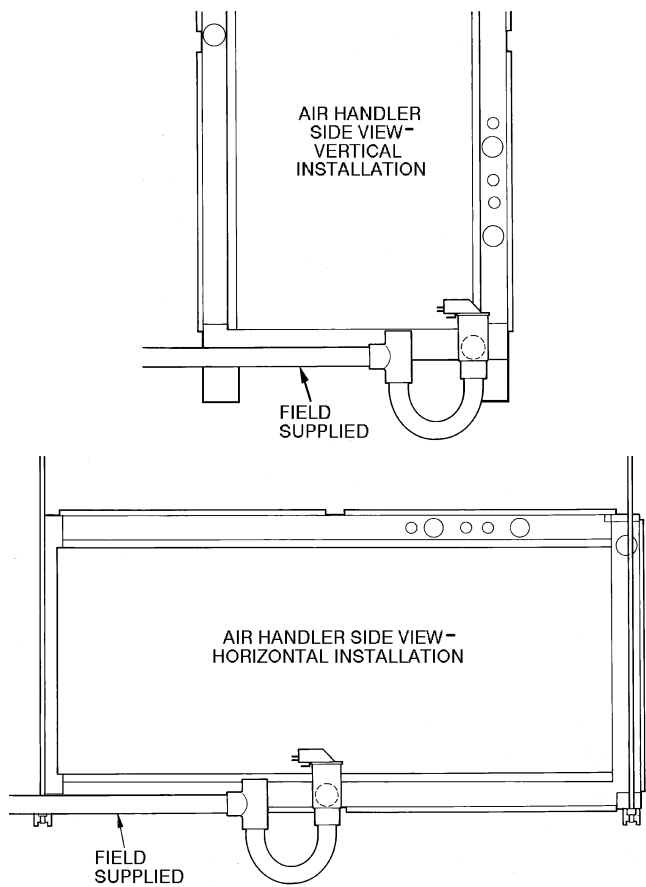

Fig. 3 — Installing Trap and Drain Line
3. Cement the longer leg end of the transparent trap into $\frac{3}{4}$ -in. connection in bottom of tee; swivel trap towards direction where condensate drain line is to be installed. See Fig. 3.
7. Install overflow switch assembly in top of tee closest to unit. See Fig. 3 and 4.